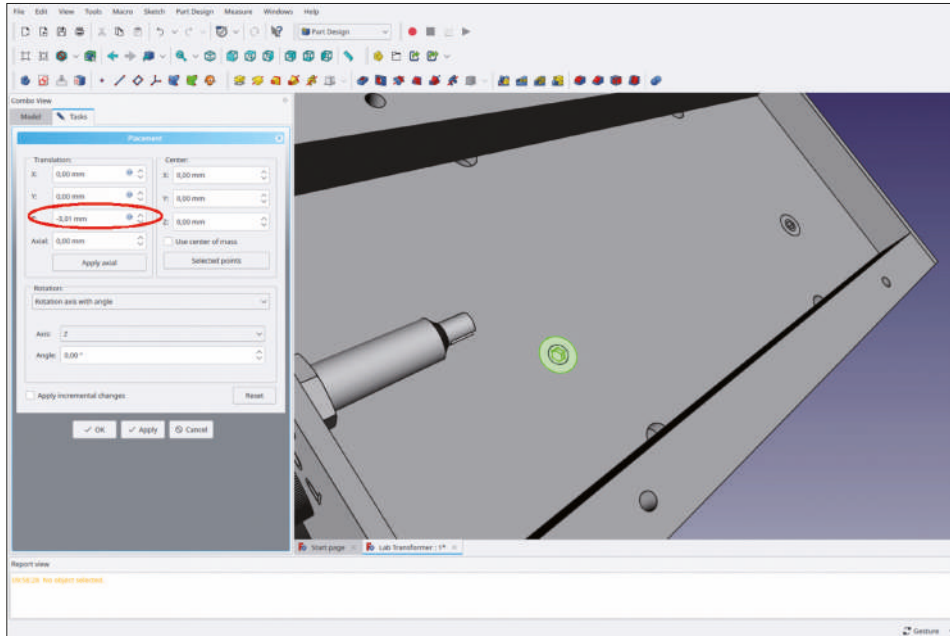

Figure 9-96
13. With the anchor plates, the heads of the countersunk screws are located inside the material. Expand 'Anchor Plate Complete 001' and edit the placement for the screw. Set the Z translation to  $-3.01$  mm. With the addition of  $0.01$  mm to the chassis thickness of  $3$  mm, the head is displayed clearly, in front of the sheet (Figure 9-96). The screw for the second anchor plate follows, as that is linked to the first one.